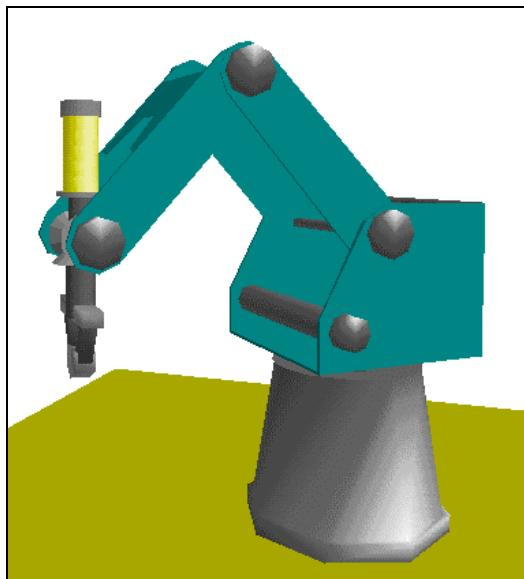

Figure 3-6: Position #5
- 9** Moving only the wrist pitch axis, bring the arm to the position shown in Figure 3-6, and record this as position #5.